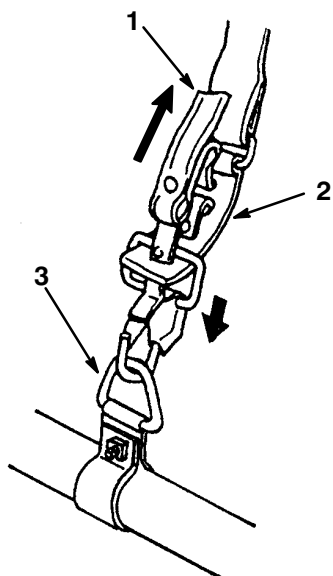

Figure 37
1. **Single Strap Harness, Model No. 46-2951** and **Deluxe Strap Harness, Model No. 46-2961**—safety release straps made out of durable nylon webbing (Fig. 37).